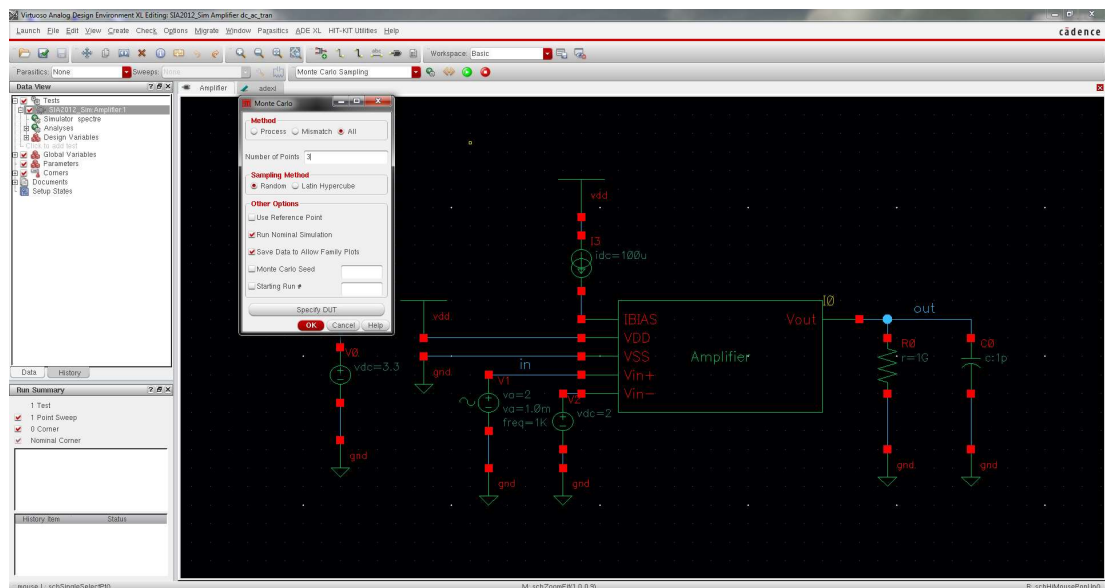

Fig. 12: Monte Carlo analysis window
- d. Parameterize the window as represented in Fig. 12.